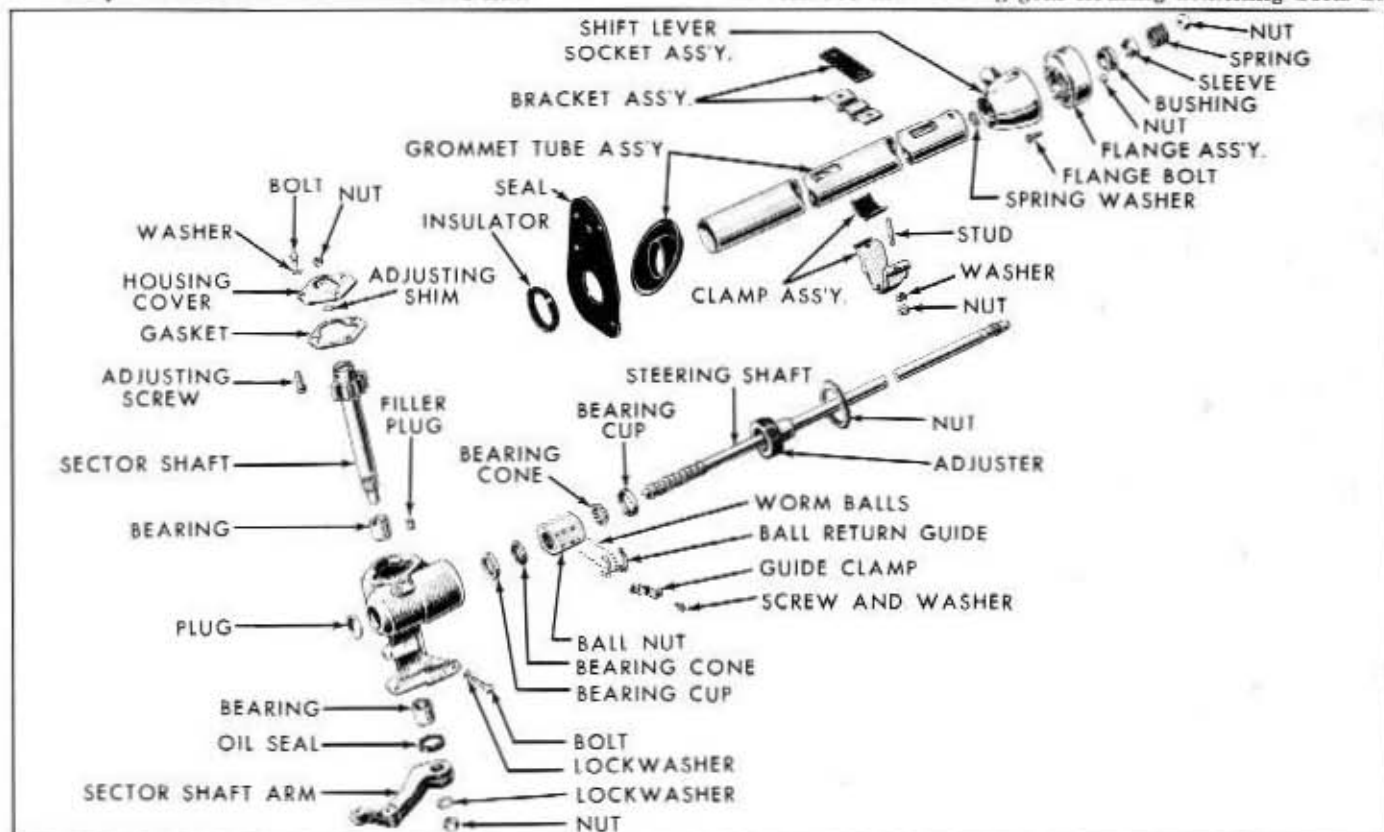

Fig. 5-7—Steering Gear and Related Parts—(60C-1215)
4. Refer to figure 5-7. Remove the steering column tube flange retainer nuts allowing the bolts to drop into the gear shift lever socket assembly.